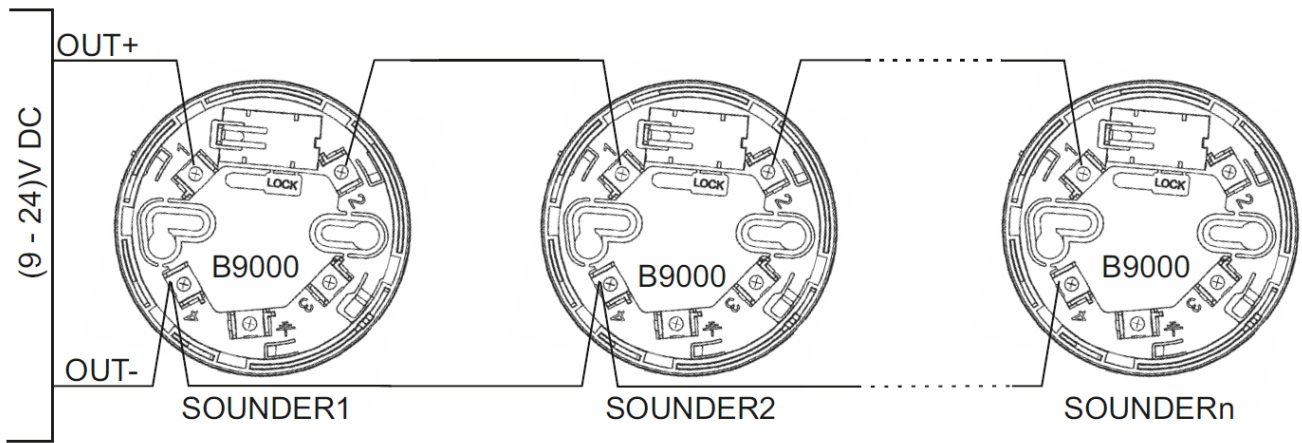

Fig.1
- Connect the electrical cables according to the attached diagram ( Figure 1 ) ;